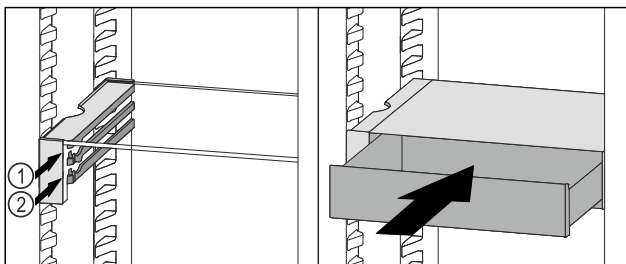

Fig. 155
- ▶ Place the VarioSafe drawer behind the stoppers on desired rib *Fig. 155 (1)* or *Fig. 155 (2)*.